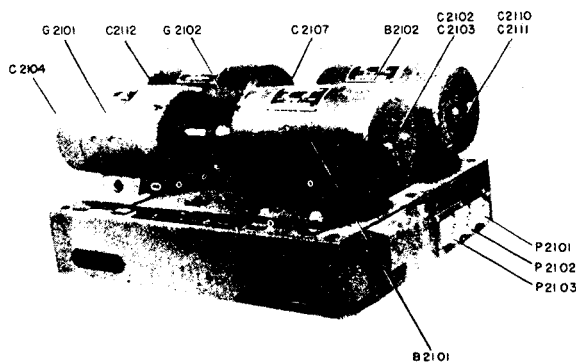

Figure 1-9 Motor Generator Power Unit Type -211100, and -21827-A. Front Perspective View
d. The Type CKP-211100 Power Unit (figure 1-9) utilizes two motors and two generators to supply the voltage necessary for the operation of the transmitter and receiver. It is designed to operate from a 115 volt d.c. power source.
e. The Type CKP-21827-A Power Unit (figure 1-9) utilizes two motors and two generators to supply the voltage necessary for the operation of the transmitter and receiver. It is designed to operate from a 230 volt d.c. power source.
Both motor generator power units may be operated from either 115 or 230 volts by changing the motors. Symbol numbers 2100-2199 apply to Type CKP-211100; symbol numbers 2300-2399 apply to Type CKP-21827-A. Figure 1-9 may be used for both.